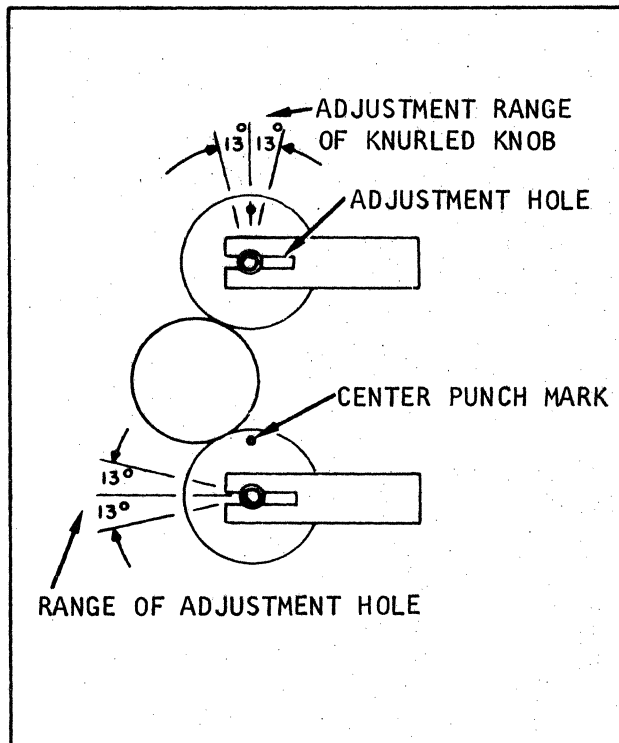

Figure 5-7B. Null Position of Pinch Roller Adjustment Points
- 5-51. If new pinch rollers are to be installed, place the adjustment points in the null position prior to installation. The null position for the two adjustments is with the adjustment hole in the end of the pinch roller shaft parallel to the slot in the yoke and the punch mark on the knurled knob vertically above the center of the pinch roller. This is shown in figure 5-7B. When making the final adjustments, deviation from the null position should not exceed  $\pm 13^\circ$  for either adjustment point.